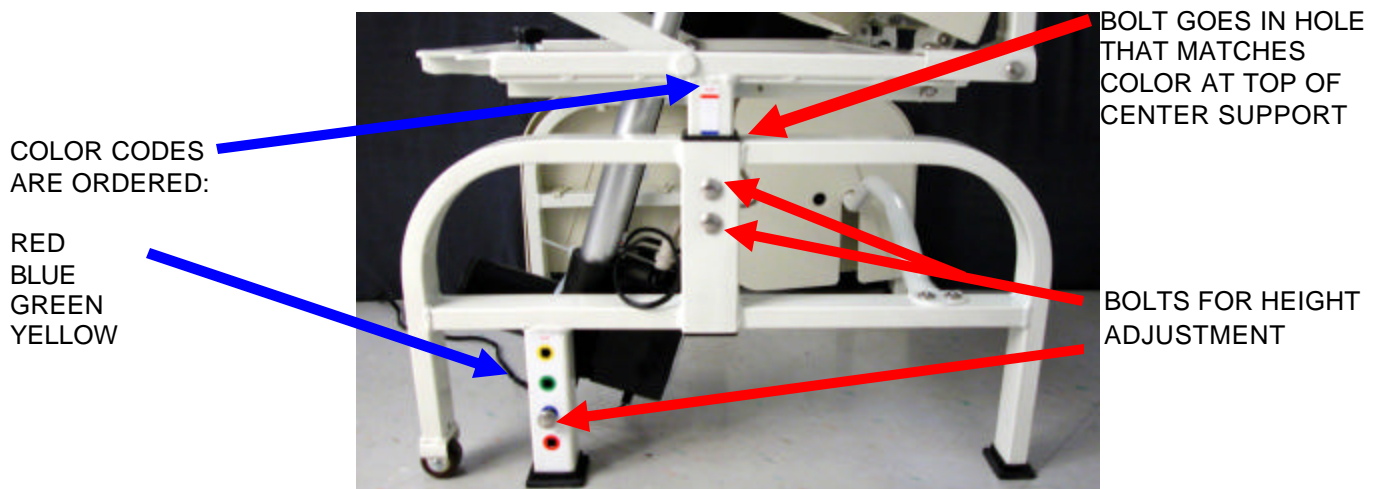

Figure A-4. Adjusting Height
Step 4. If height adjustment is needed or if the control arm is to be installed on the left arm instead of the right arm, make sure that the seat is in to the highest position before attempting to loosen any nuts (IMPORTANT)! After loosening their respective nuts and supporting the raised end of the frame with one hand, carefully slide the air pump and the actuator off with another hand and set them aside. Remove the 6 bolts as shown in Figure A-4. Adjust the height of the frame by lifting up on the seat frame (this process may require two people). Put the lower (hole) bolts and nuts back on each side underneath the seat frame in the holes that match the color-coding. Put the 4 upper bolts and nuts back on each side of the center support. Install the actuator on the side that the control arm is to be mounted on. Install the air pump on the opposite side from the actuator. After installing the actuator and the air pump, tighten all of the bolts and nuts securely with the mini wrench provided.